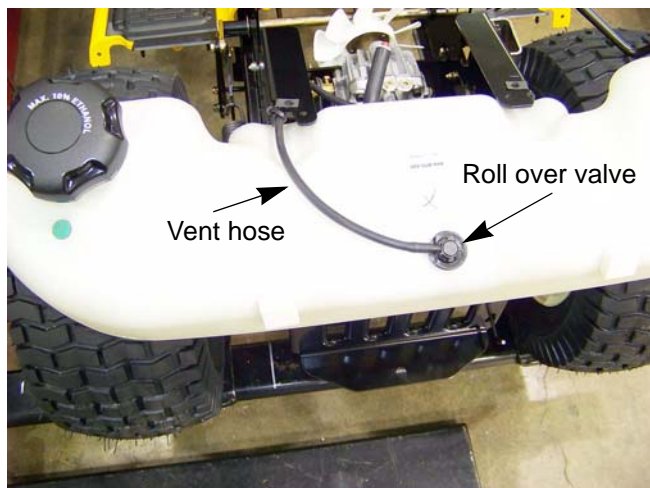

Figure 2.11
15. Disconnect the vent hose from the roll over valve. See Figure 2.11.